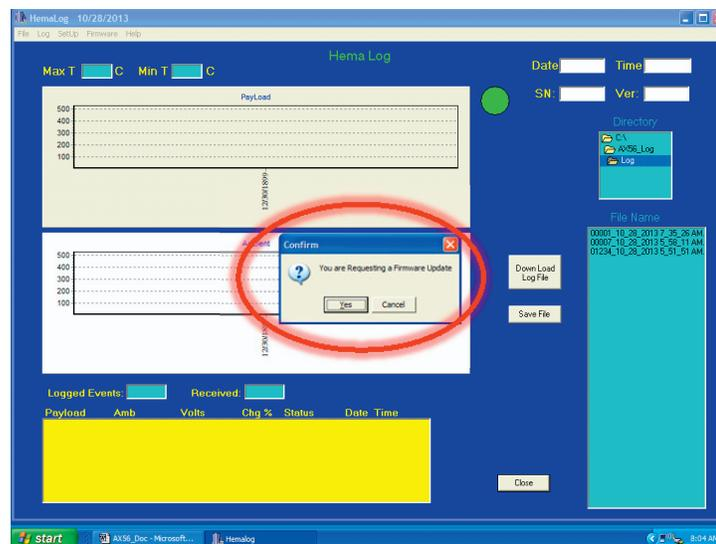

Figure 53. Confirm Firmware Update Dialog Box
1. Acknowledge firmware update (Figure 53) by pressing **Yes** to update the microprocessor's firmware on the control board for the AX56L unit or press **Cancel** if you do not want to update the firmware.